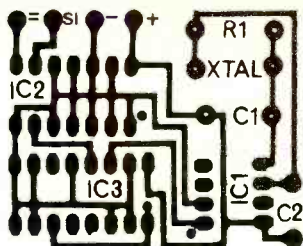

Fig. 2. Foil side, components mount on other side of board. Dots denote pin 1 of IC's.
**Construction.** The timer circuit is best assembled on a small printed circuit board, the etching and drilling guide/component-placement diagram for which is shown in Fig. 2. It is important to use care when mounting the crystal so that it can be bent back to lie flat against R1. Alternatively, R1 can be mounted on the bottom side of the board and the crystal bent back to lie flat on the board itself.